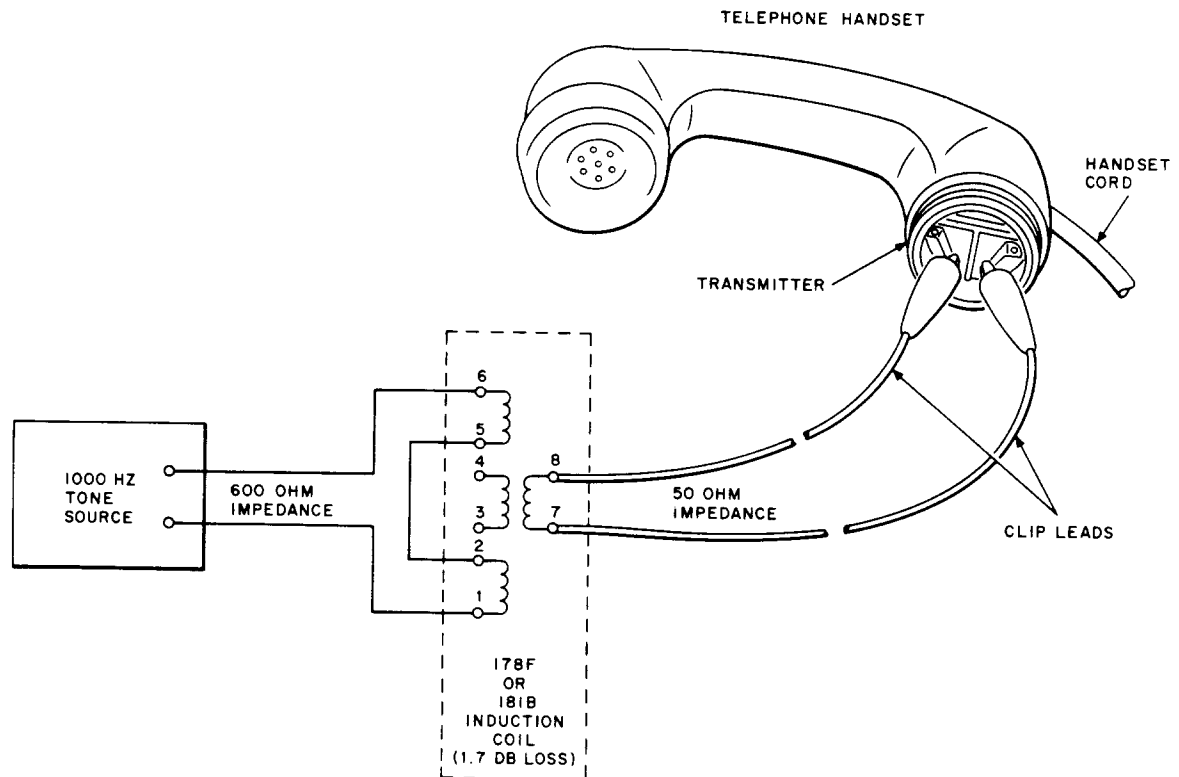
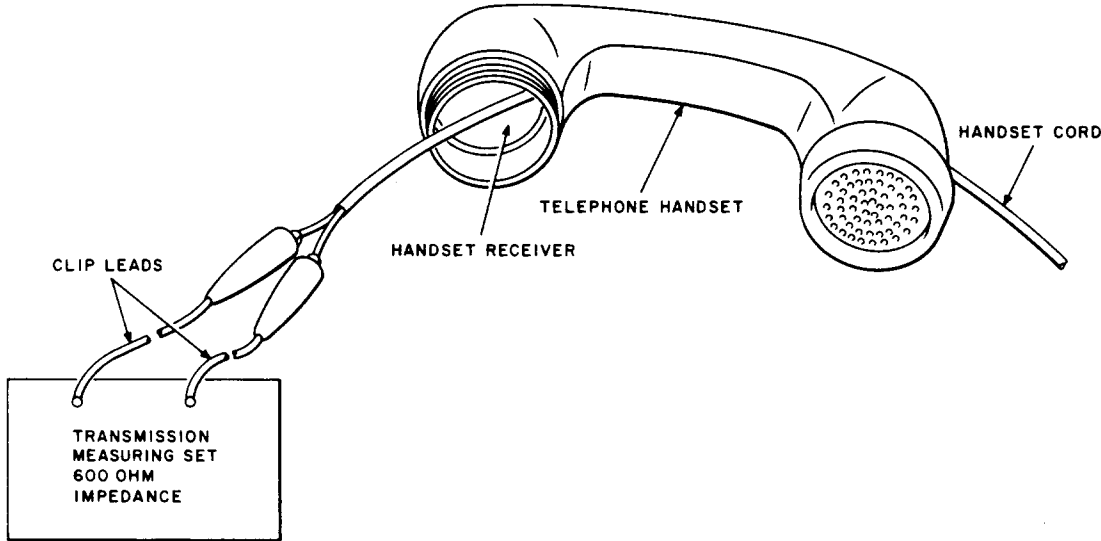

Fig. 1—Connections for Sending Tone of a Telephone Handset Transmitter
Fig. 2—Connections for Measuring Tone at a Telephone Handset Receiver
- (1) Remove the transmitter unit from the handset of the residence line telephone set.
- (2) Connect terminals 7 and 8 of a 178F or 181B coil to the two spring connectors in the handset using clip leads. (See Fig. 1.)
- (3) Adjust the 1000-Hz tone source to a reading of 1.7 dB more than the required transmission level at the transmitter, as follows.
- (4) Connect the 1000-Hz tone source to terminals 1 and 6 of the 178F or 181B coil and place a strap between terminals 2 and 5. (See Fig. 1.)
- (5) Block operated the L0-L3 relay (DO J bay) associated with the residence line under test.
- (6) Measure at the F AMP OUT (DO J bay). Measurement should be 0 dBm with the proper 89-type resistor in the 1C pad socket associated with the receiving line from the residence location.
- (7) Remove blocking tool from L0-L3 relay blocked operated in Step (5).
- (8) Block operated the H relay and the A0-A3 relay (DO J bay) associated with the residence line under test.
- (9) Measure at the C jack (DO J bay). Measurement should be -16.0 dBm.
- (10) Remove blocking tools from H and A0-A3 relays blocked operated in Step (8).
- (11) Disconnect the 178F or 181B coil from the residence line handset and the tone source. Replace the transmitter unit in the handset.
- (12) Remove the receiver unit from the residence telephone handset and disconnect the two leads connected to it.
- (13) Connect a transmission measuring set to the two leads disconnected from the receiver unit in Step (12). (See Fig. 2.)
- (14) Send 1000-Hz tone at the E AMP IN (DO J bay). Adjust sending level to -16 dBm.
- (15) Block operated the L0-L3 relay associated with the residence line under test.
- (16) Measure at the residence line telephone as set up in Step (13). Measurement should be -16 dBm with the proper 89-type resistor in the 1C pad socket associated with the line transmitting to the residence telephone.
- (17) Remove blocking tool from the L0-L3 relay operated in Step (15).
- (18) Remove the 1000-Hz tone from the E AMP IN.
- (19) Block operated the H relay and the A0-A3 relay associated with the residence line under test.
- (20) Send 1000-Hz tone at a level of 0 dBm in the D jack (DO J bay).
- (21) Measure at the residence telephone set as in Step (16). Measurement should be the same as in Step (16). If not, check the 89-type resistor in the D 1C pad socket (DO J bay). Required pad value is 0 dB.
- (22) Remove blocking tool from the H and A0-A3 relays operated in Step (19).
- (23) Remove the tone source from the D jack.
- (1) Remove the transmitter unit from the handset on the duty officer console.
- (2) Connect terminals 7 and 8 of 178F or 181B coil to the two spring connectors in the handset using clip leads. (See Fig. 1.)
- (3) Adjust the 1000-Hz tone source to 1.7 dB more than the required level at transmitter of the handset, as follows: Required level $+5.0$ dBm plus 1.7 dB for the coil loss. Adjust tone level to $+6.7$ dBm.
- (4) Connect the 1000-Hz tone source to terminals 1 and 6 of the 178F or the 181B coil and place a strap between terminals 2 and 5. (See Fig. 1.)
- (5) Operate the DO key and the REG LINE (to MCP) key on the DO console. Handset is off-hook.
- (6) Measure at the E AMP OUT (DO J bay). Measurement should be +8.0 dBm. (Check to see that there is a 4.5-dB 89-type resistor in the B IC pad socket—DO J bay.)
- (7) Measure at the B AMP OUT (DO J bay). This level is locally specified. Measurement should be the same as obtained when lining up the DO J bay. Refer to Section 310-504-502, 4.04, Step (16), or to the drawing issued by the Customer Service Engineer for that location.